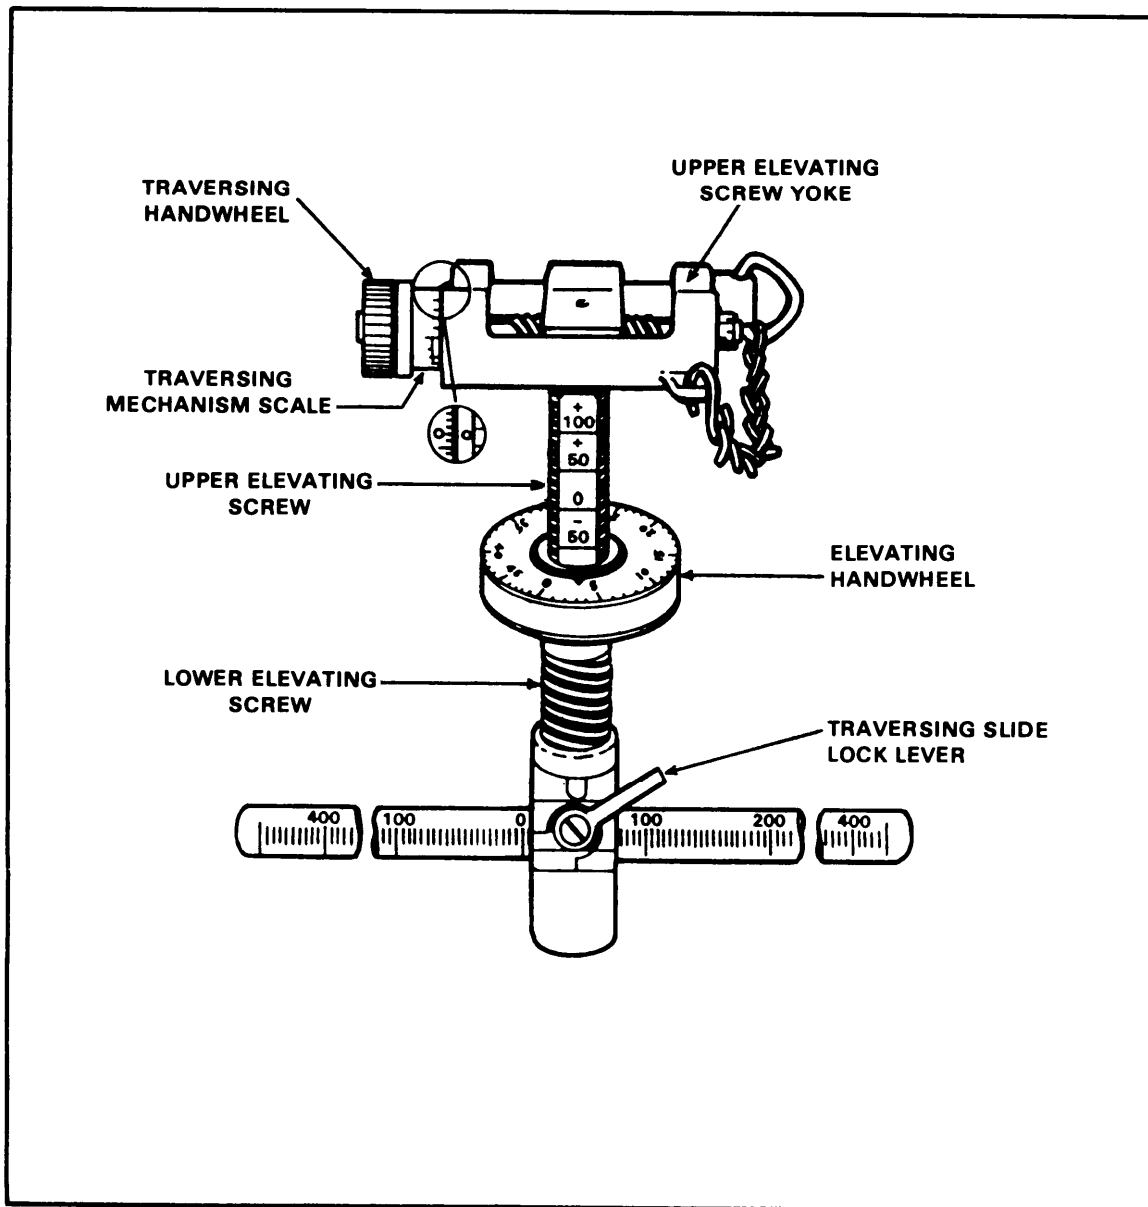

Figure 3-4. T&E mechanism.
- e. Attach the T&E mechanism (Figure 3-4):
- (1) Center the elevating handwheel between the upper and lower elevating screws.
- (2) Center the traversing handwheel on the upper elevating screw yoke.